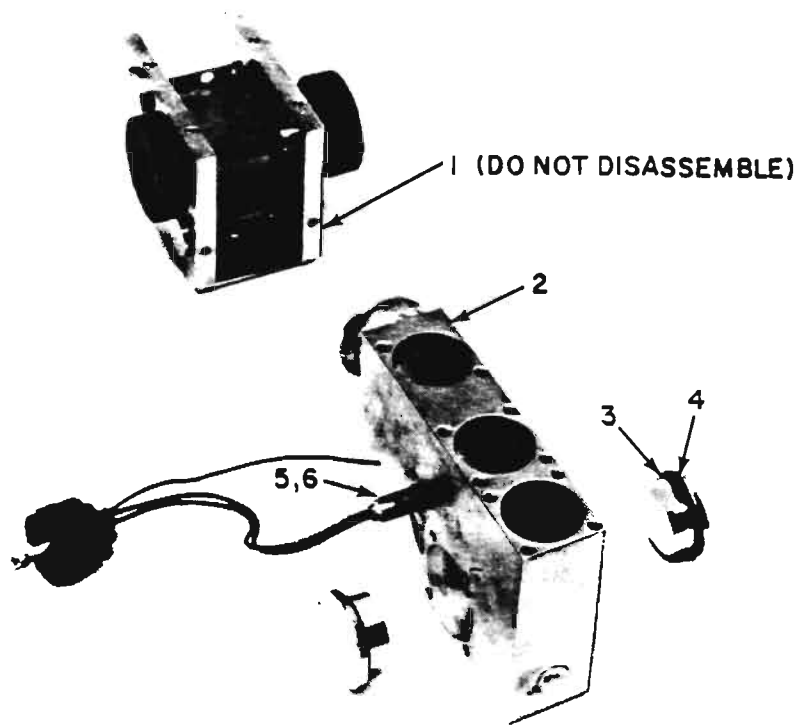

Fig. 8-8. Spectrometer Tube and Magnet Assembly
**SPECTROMETER TUBE AND MAGNET ASSEMBLY (Fig. 8-8)**